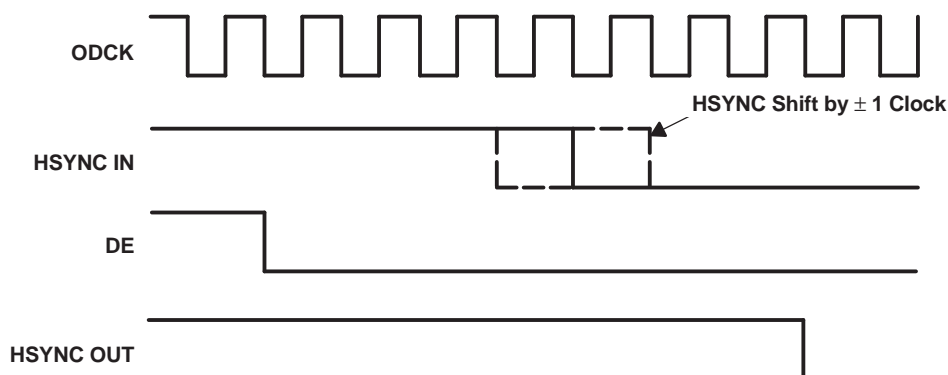

Figure 16. HSYNC Regeneration Timing Diagram
The TFP401A integrates HSYNC regeneration circuitry that provides a seamless interface to these noncompliant transmitters. The position of the data enable (DE) signal is always fixed in relation to data, irrespective of the location of HSYNC. The TFP401A receiver uses the DE and clock signals to recreate stable vertical and horizontal sync signals. The circuit filters the HSYNC output of the receiver, and HSYNC is shifted to the nearest eighth bit boundary, producing a stable output with respect to data, as shown in Figure 16. This will ensure accurate data synchronization at the input of the display timing controller.